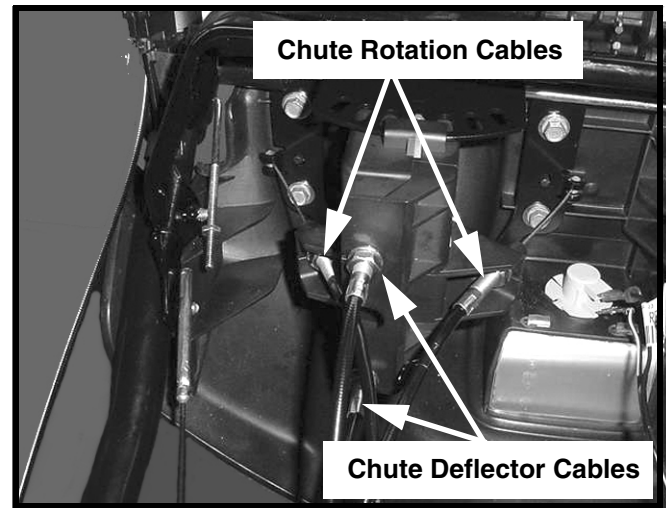

FIGURE 12
32. Select the corresponding two cables of the chute motion requiring adjustment. See Figure 12.